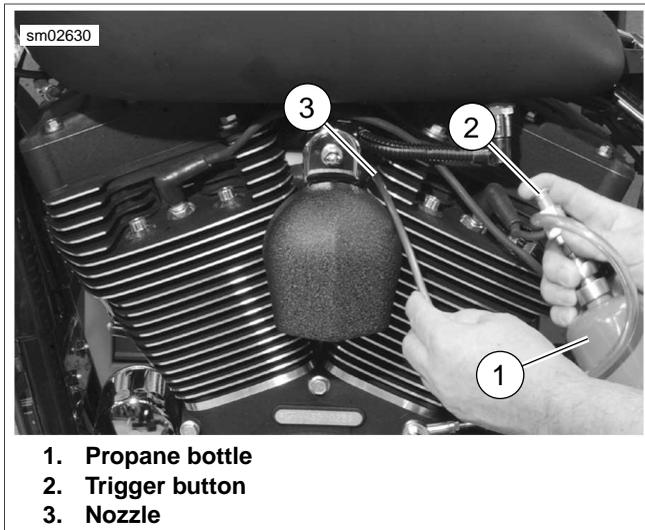

Figure 4-44. Checking for Leaks
3. See Figure 4-44. Aim nozzle (3) toward possible sources of leak such as intake manifold mating surfaces.
4. Press and release trigger button (2) to dispense propane. Tone of engine will change when propane enters source of leak. Repeat as necessary to detect leak.